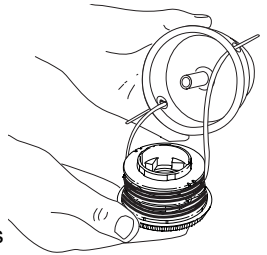

Fig. 21
- Insert the ends of the prewound inner reel line into the outer spool eyelets (Fig. 21). Push the new inner reel, arrow side up, into the outer spool.